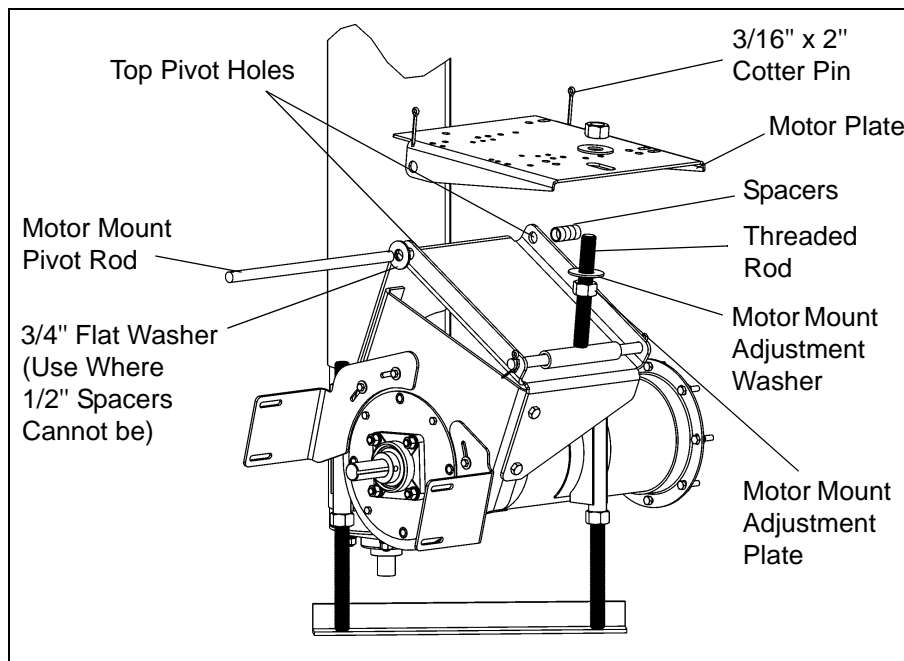

Figure 4Q
- A. Thread one (1) of the Motor Mount Adjustment Nuts and one (1) the Motor Mount Adjustment Washers approximately 3/4 of the way down the Motor Mount Adjuster's threaded rod.
- B. Once the nut and washer are in place, slip the Motor Plate over the adjuster and align its pivot holes with the Top pivot holes on the Motor Mount Plate. (See Figure 4Q)